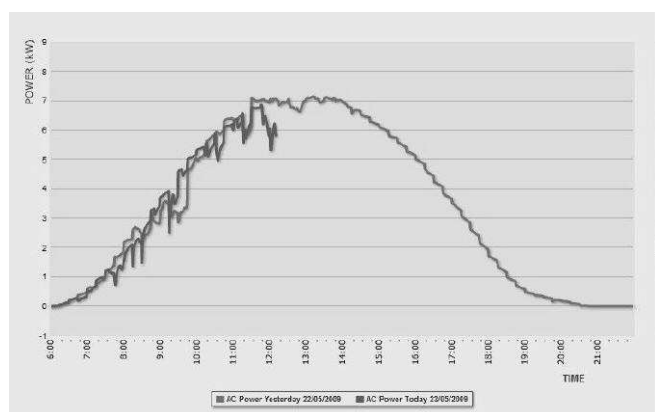

Fig. 2
**2 On the middle (Fig.2).** The plant daily power graph which allows to compare the actual AC power vs. the day before AC power. The graph is available as either a line or an area graph. The showed power may come directly either from the inverters or from the energy meters (selectable).